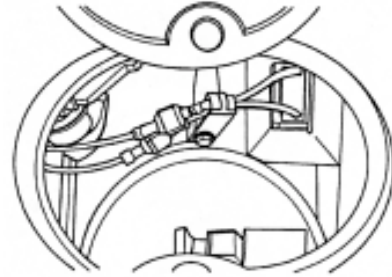

Figure 1
3. Remove the wires from the wire clip by spreading the plastic wire clip. Push the wires out of the wire clip. As shown in Figures 1 and 2.